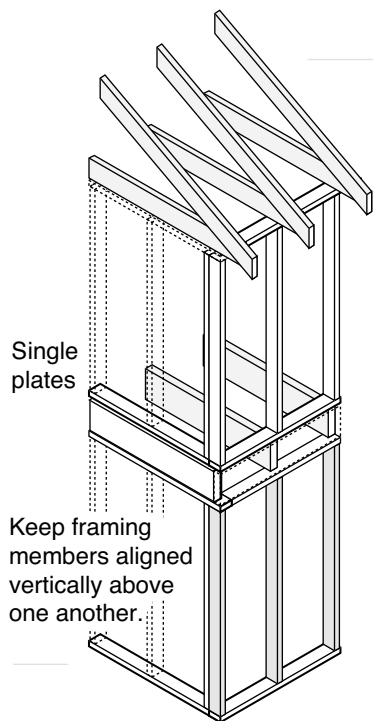

FIGURE 18
- ◆ Use single top-plates where the design allows for floor joists and trusses to be directly located over the stud below (see Figure 18).